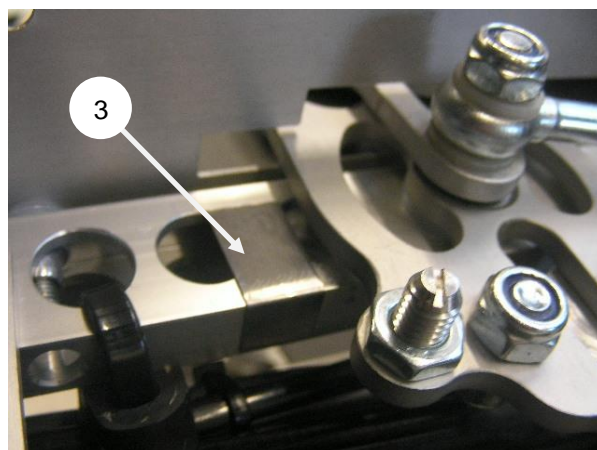

Fig. 6 – Affixed protective plate
- 12 Mark contact point of turbo detent on centre panel. Degrease marked contact point with power cleaner and affix protective plate with Technicoll (Fig. 6, 3)